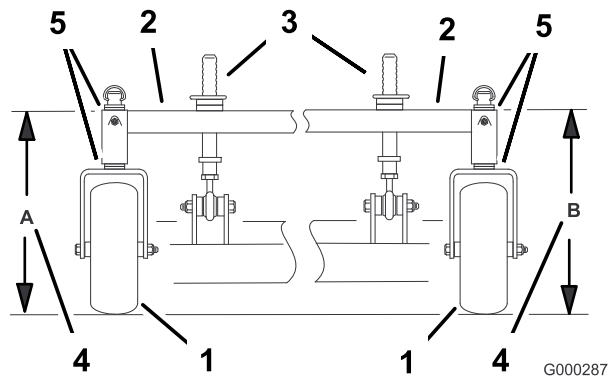

Figure 55
4. Measure the carrier-frame height at location **A** (Figure 55).
5. Measure the carrier-frame height at location **B** (Figure 55).